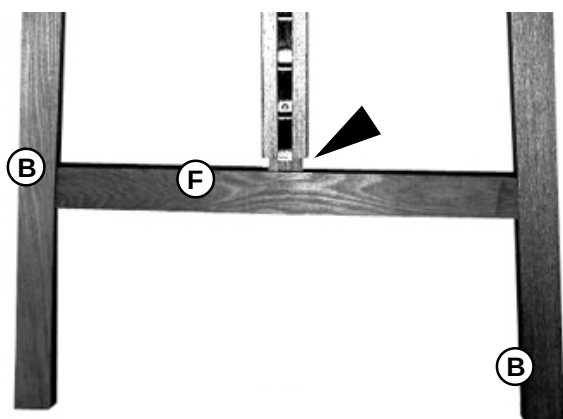

FIG 9
STEP 9. Attach Ratchet/Center Column assembly to Lower Cross Member [F] by inserting notched end of ratchet column into oval hole in the top edge of the cross member. See FIG 9.